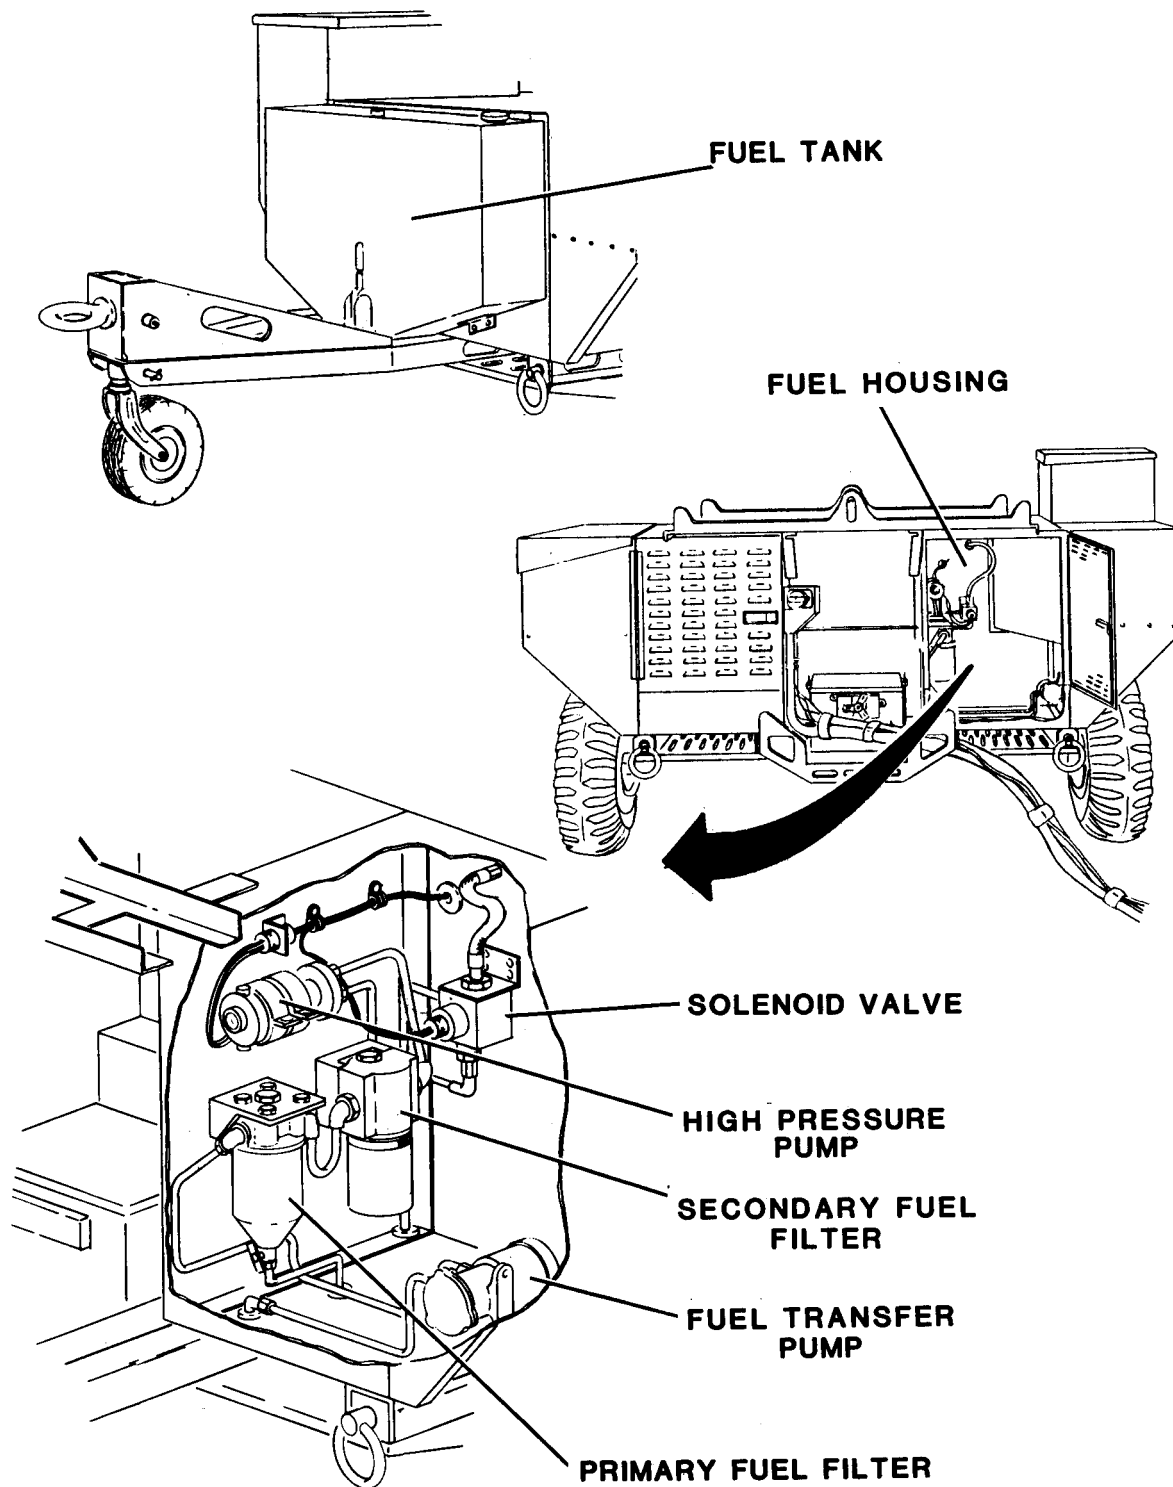
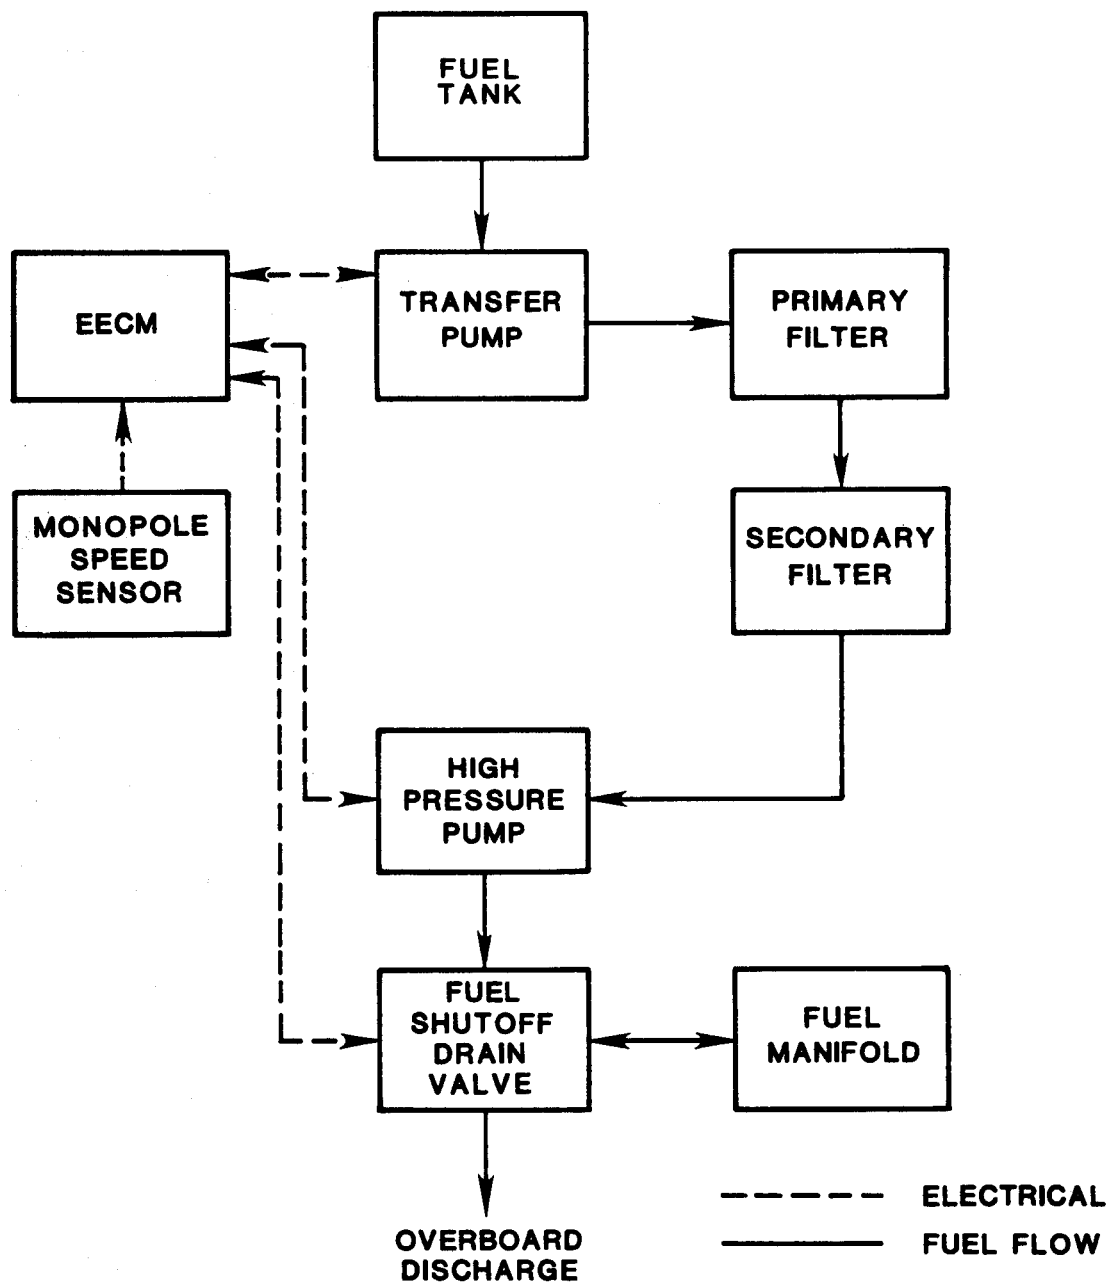

Figure 4-22. Fuel System Components
Figure 4-23. Fuel System Block Diagram
**4-34. GENERAL.** The fuel system (figure 4-22) provides a clean, efficient flowing supply of fuel to the turbine engine. The system is supported by an externally mounted, 32-gallon (121.13 l) fuel tank. A full tank provides approximately four hours operating time. Components mounted in the fuel housing are the fuel transfer pump, primary fuel filter, secondary fuel filter, high pressure pump, and the fuel shutdown/drain solenoid valve. These components combine to control the fuel flow to the fuel manifold mounted on the turbine engine. The fuel manifold has three fuel Injection nozzles that provide a fine mist of fuel to support combustion in the turbine combustion chamber. The fuel system provides the turbine engine with a fuel flow at the rate required to maintain proper combustion and engine speed under all load conditions. A block diagram of the fuel system is shown in figure 4-23.